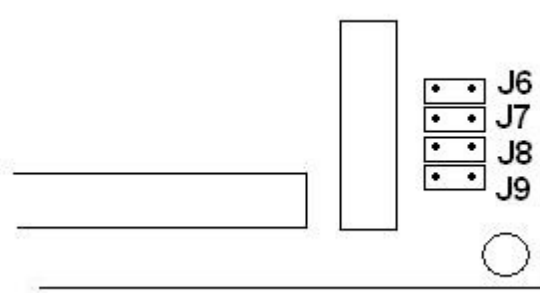

Figure 5: Location of the J8, J9 jumpers on the digital module inside the instrument.
- Remove the instrument back cover. Move the jumper on the digital module from the position J9 to J8 [Figure 5.].